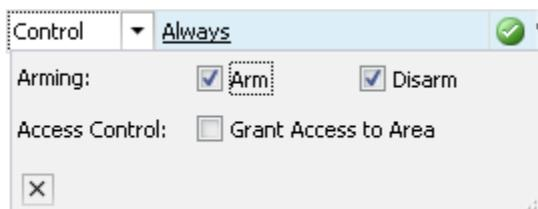

Figure 21
9. Depending on the entity selected in the “What” column, the “Options” column may have a drop-down selection available. *Figure 21* is an example of the area control options.